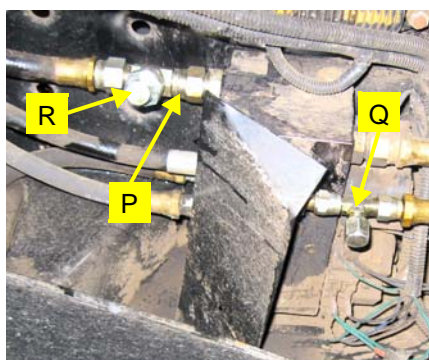

Figure 3b: Installed pressure tank fittings
- b. Pressure will be received from the front left line on the hydraulic valve. Install the run-tee adapter fitting (**P**) between the rubber hose and hydraulic valve. (Figure 3b)
- c. Install the reducer fitting (**R**) to the branch on the run-tee fitting (**P**). (Figure 3b)
- d. Tank will be relieved to the bottom port on the hydraulic valve. Install run-tee Fitting (**Q**) between the rubber hose and the hydraulic valve. (Figure 3b)